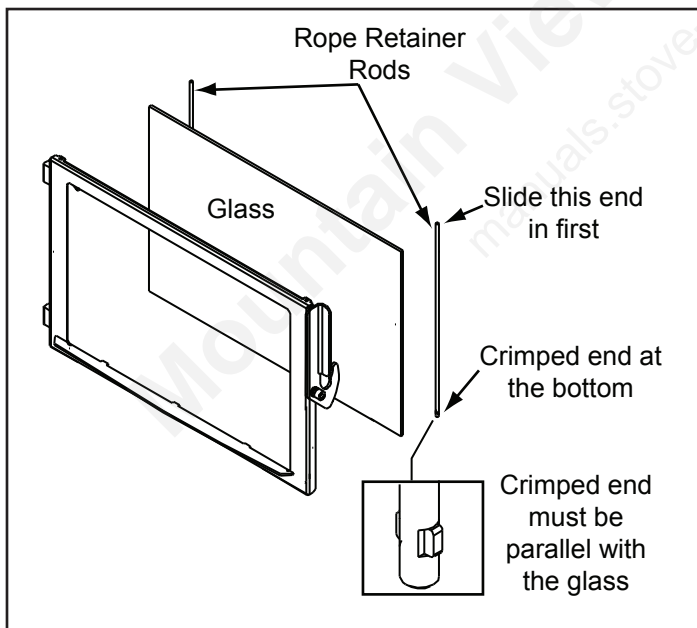

Figure 39.1
4. Slide the retainer rod into the top hole first, and then line up the bottom crimped end with the hole in the door. The crimped end must be parallel with the glass in order to insert it into place. **Figure 39.1.**